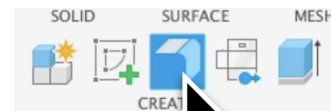

Figure 1.4
1. Click on **flange**, and create a sheet metal body of your part (see Figure 1.4).